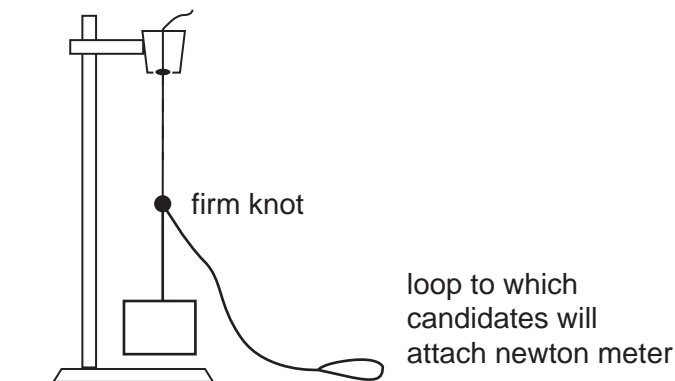

Fig. 1.1
- (i) One end of the string of length 60 cm should be attached to the wooden block with a small piece of adhesive tape. One end of the shorter string should be tied firmly to the centre of the long string. A loop should then be made at the other end of the shorter string. The longer string should then be passed through the split cork and this should be clamped about 60 cm above the bench so that the wooden block is suspended. This is shown in Fig. 1.1.
- (ii) At the changeover, Supervisors should dismantle the newton meter arrangement and ensure that the wooden block is suspended as shown in Fig. 1.1.